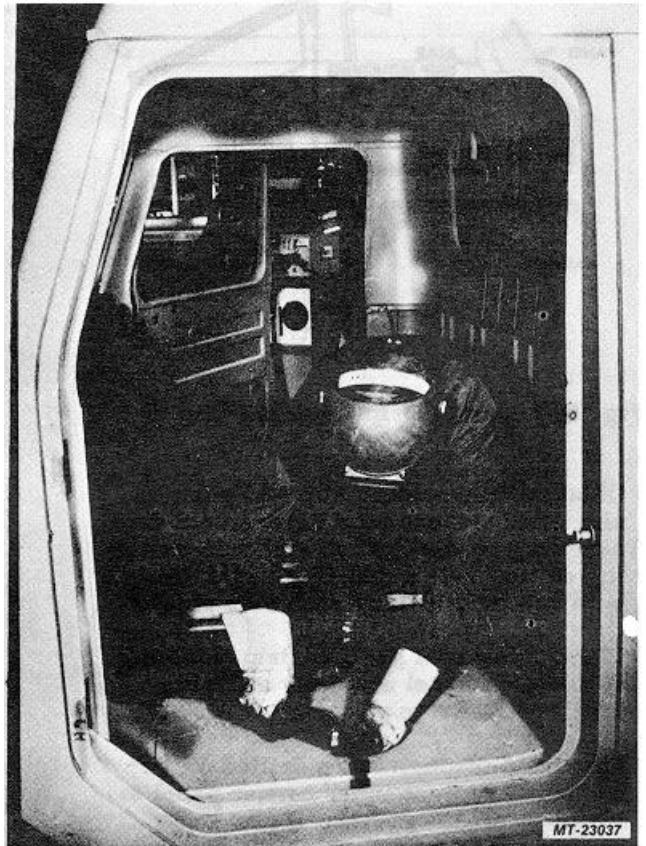

Fig. 48. Using MIG Welder For Plug Welds
1. Using MIG welder inside cab (Fig. 48), plug weld around door opening through holes drilled out of original cab panels during side panel removal.